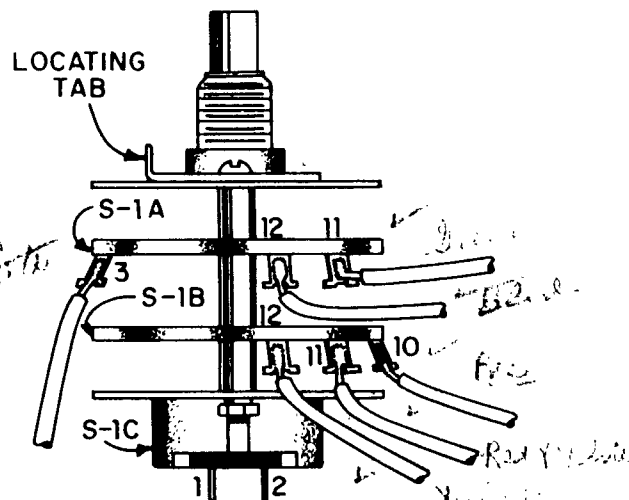

FIGURE 9. PREWIRING S-1
SEE FIGURE 9.
- ☒ S-1, 3-wafer switch. Position the switch with the terminals and locating tab as shown in Figure 9.